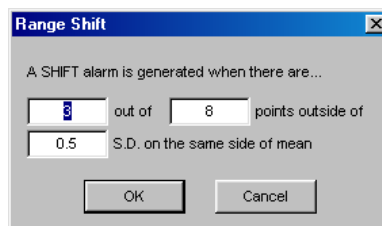
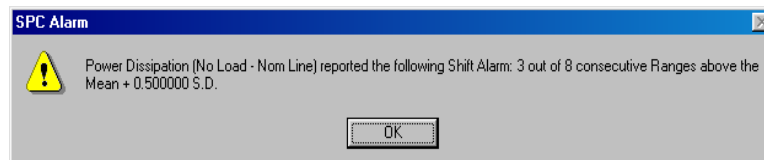
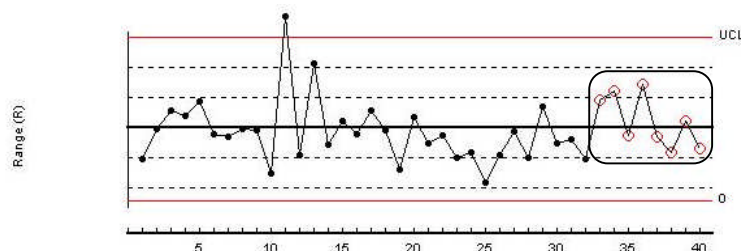

Figure 64 – The Range Deviation dialog window
Figure 65 – The QM Alarm (Range Shift) dialog window
Figure 66 – The Range Shift Control Chart (Range (R))
This alarm will be triggered when a set number of Data Points, in a set of Continuous Data Points are Inside/Outside the set value of Standard Deviation. Figure 64 shows an example.
Figure 65 shows the QM Alarm dialog window that opens when the values in Figure 64 are used.
When this Active Alarm is generated with the values in Figure 64, the close-up of the Measurement's Control Chart (Range (R)) graph (see The Control Chart graph & image filename, page 28) for that Measurement will appear similar to Figure 66.